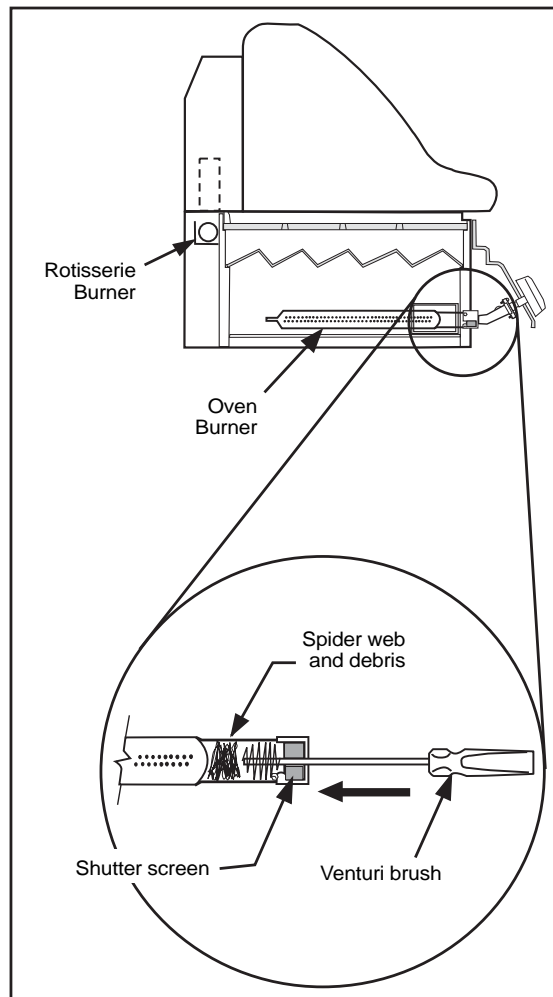

Fig. 15
**WARNING:** Always inspect the air shutter screen periodically to confirm that it is clear of food residue, spider webs or other insect debris. A clogged venturi tube can cause a fire to occur beneath the Grill, due to a flashback of gas (see Fig. 15).
- Loosen the burner attachment screws (from inside) to allow the burners to be pulled away from the valves far enough for a venturi brush or suitable cleaning device to be inserted into the burner venturi to clean away debris (see Fig. 15). Be careful not to damage the electrode ceramics.